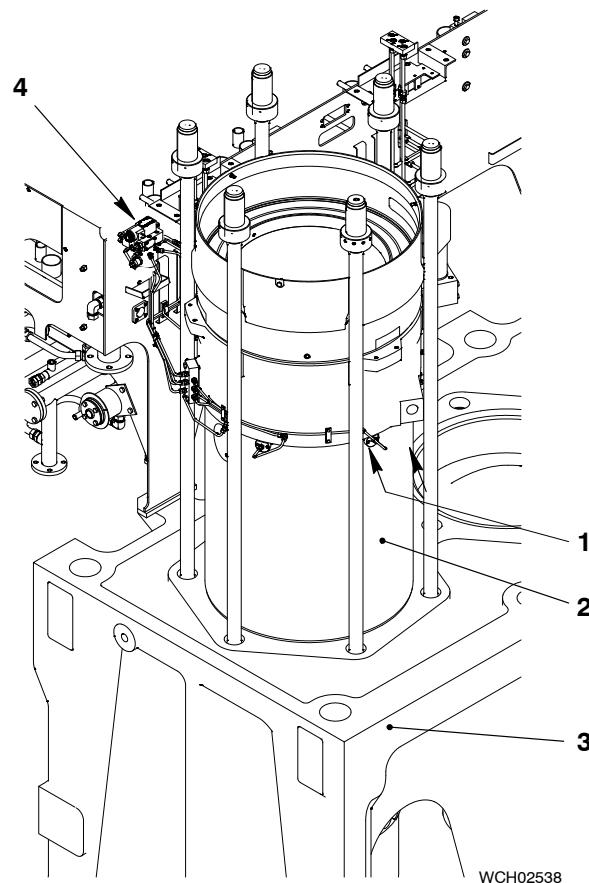

Fig. 1: Location of Lubricating Quills
Six lubricating quills (1, Fig. 1) are installed around the circumference of the cylinder liner (2). The lubricating pump (4) installed on the rail unit, supplies lubricating oil through pipes to each lubricating quill.